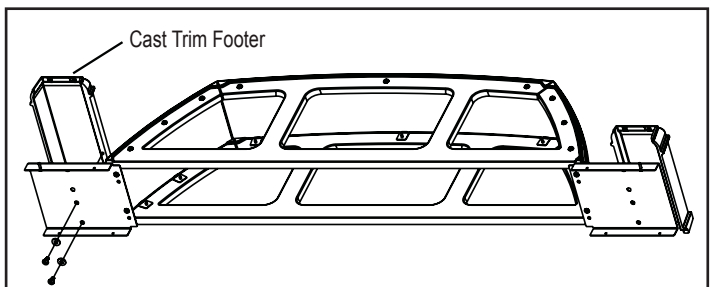

Figure 20.6
7. Attach cast footers. **Figure 20.6.**